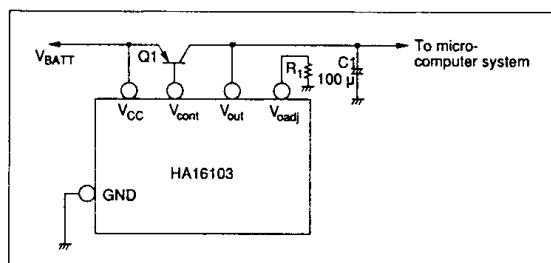

Figure 1 Fine Adjustment Circuit of Output Voltage
- Figure 1 shows the fine adjustment circuit of the output circuit. Select the resistor R₁ as shown in equation 1.